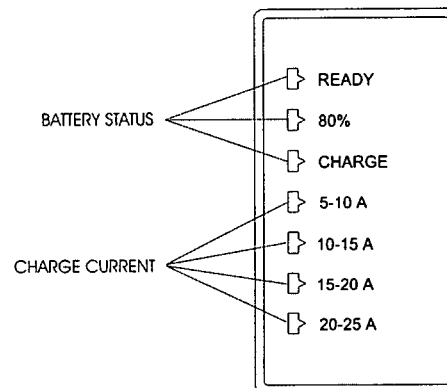

Figure 2. Charge Indicator
5. The battery charger is fully automatic and will cycle automatically (depending on amount of charge needed). Charge status can be observed as follows (Refer to Figure 2):